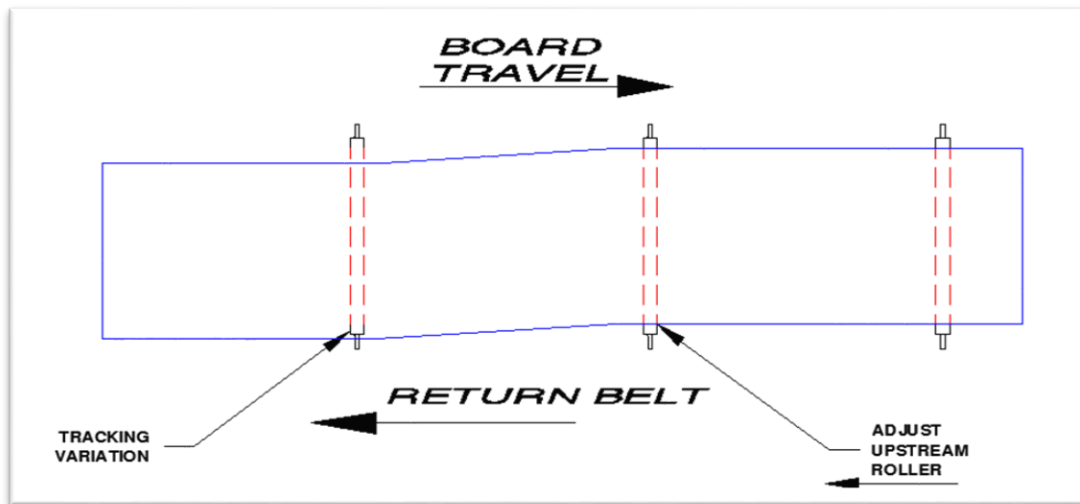

Figure 16 – Identifying Proper Roller to Adjust
- To correct a tracking situation you need to adjust the roller ahead of the situation you are trying to correct in the sense of belt travel. Not the roller where you see the tracking variation. See figure 16